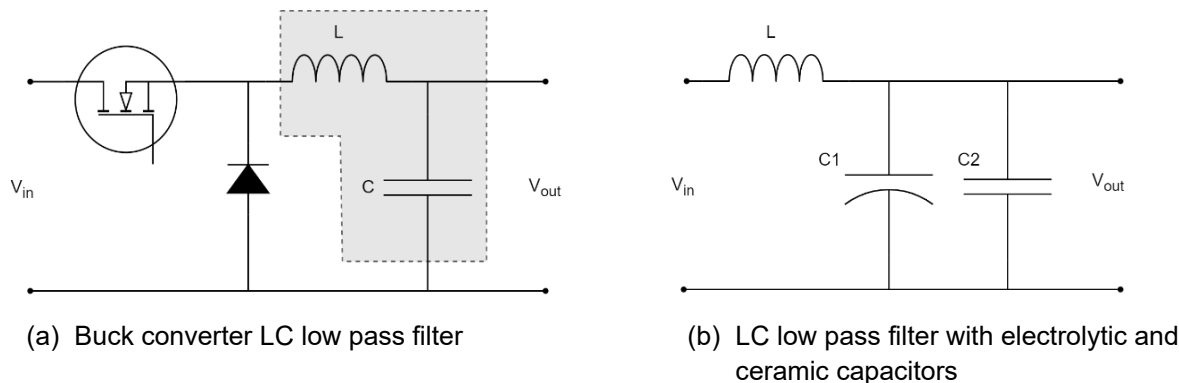

Figure 1: Buck converter
An LC low-pass filter, consisting of an inductor (L) and a capacitor (C), is frequently found at the output stage of DC-DC converters, as illustrated in Figure 1(a). This LC combination filters out the switching ripple to achieve a DC output.
To improve the high-frequency filtering, a combination of an electrolytic capacitor ($C1=220 \mu\text{F}$) and a ceramic capacitor ($C2$) with smaller capacitance is used, as shown in Figure 1(b) below. [3]